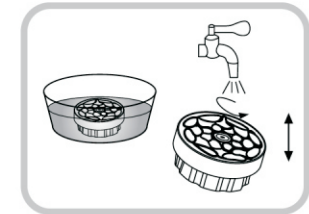

Fig.1
2. Clean the Resin Filter by soaking it in warm water (60°C/140°F) for 10 minutes. After 10 minutes remove the filter and rinse it with running water, gently shaking it and rotating the Resin Filter Platen (residue may be released, this is normal). (Fig. 1)